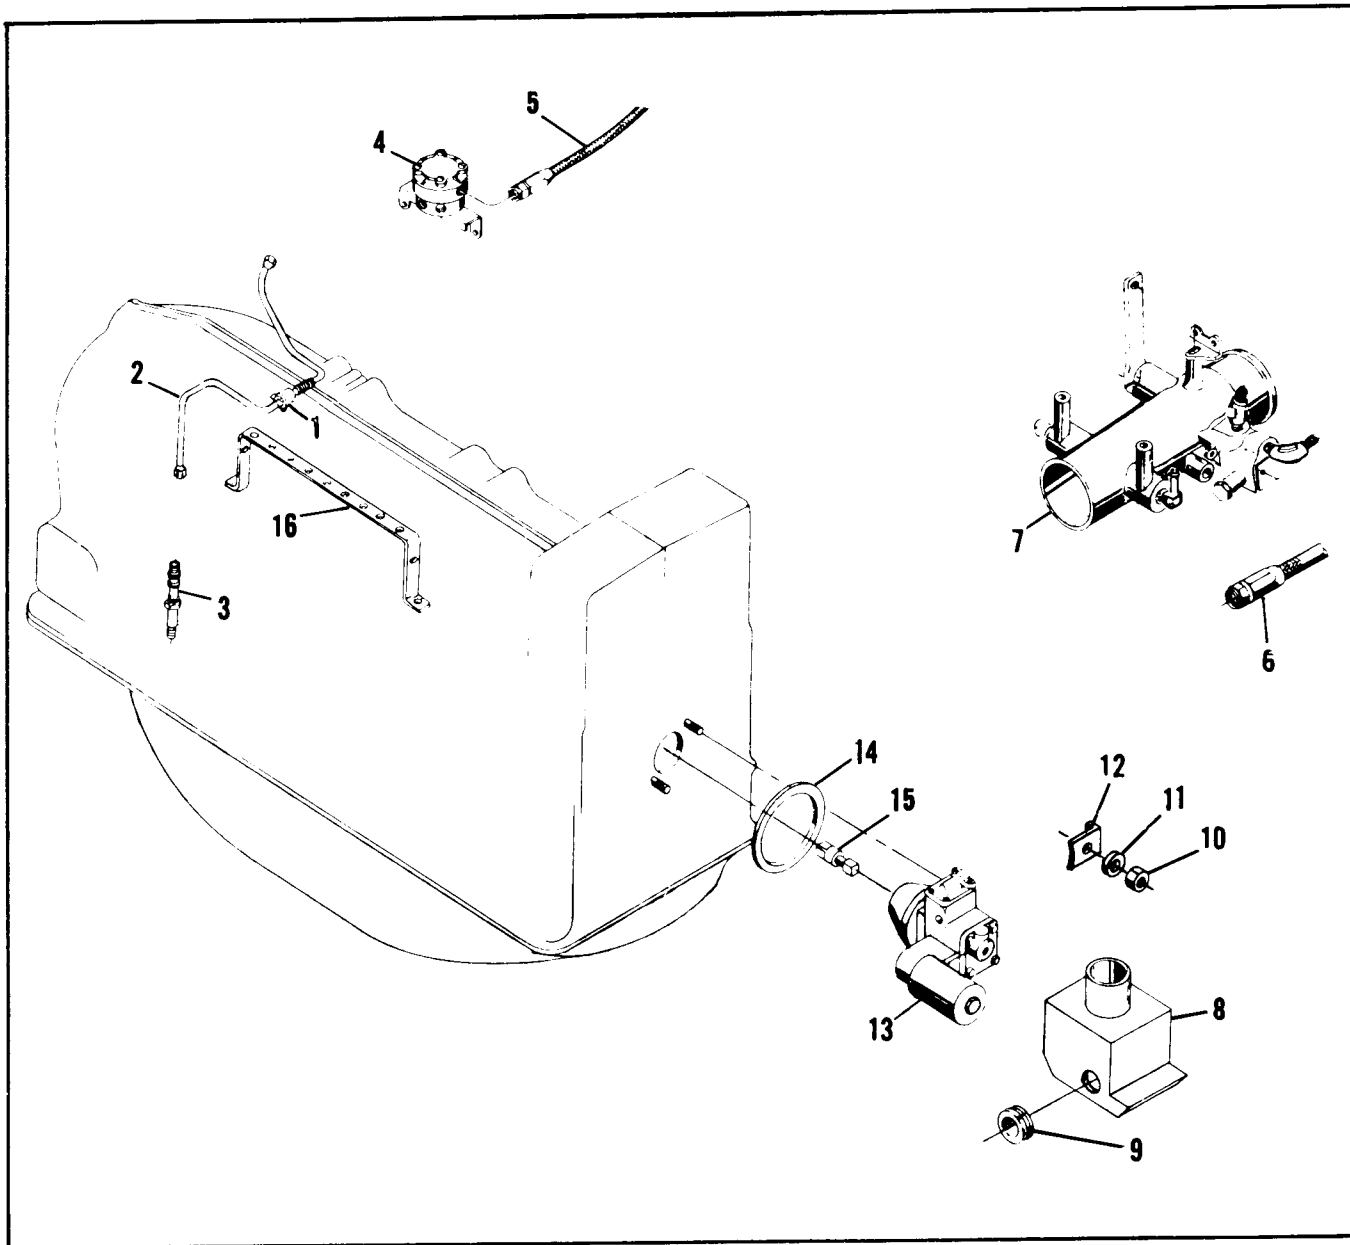

FIGURE 4-8. FUEL INJECTION SYSTEM, TS10-520-D.
4-16. FUEL INJECTION SYSTEM, TSIO-520-D (See Figure 4-8).
- a. Disconnect six fuel discharge tubes (2) from fuel manifold valve (4) and nozzles (3). Compress spring legs of each clamp (1) and remove tubes and clamps. Remove nozzles (3) and store in a clean container.
- b. Disconnect hose assembly (5) from manifold valve (4) and metering unit; disconnect hose assembly (6) from metering unit and fuel pump (14).
- c. Bracket (8) should have been removed at the same time as the turbocharger (38, Figure 4-8). If not, do so at this time.
- d. Remove shroud assembly (9) from fuel pump (14). Remove attaching parts (11,12,13) and lift fuel pump (14) off crankcase studs. Remove gasket (15) and coupling (16).